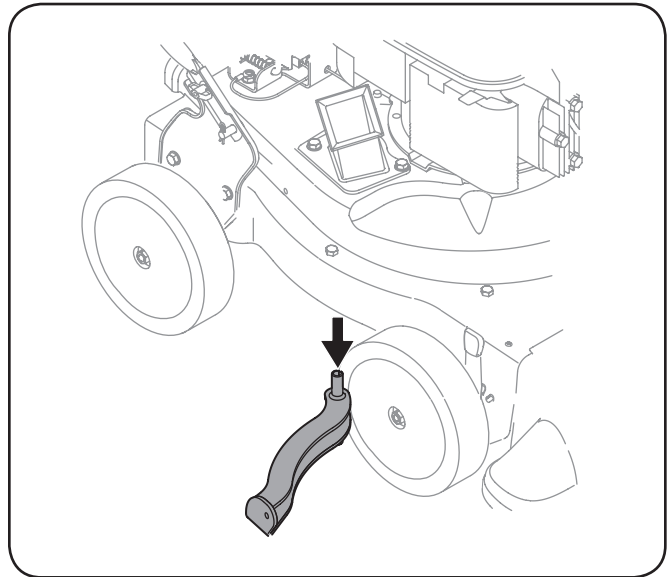

Figure 6-3
6. Remove and clean the screen by scraping or washing with water. See Figure 6-3.